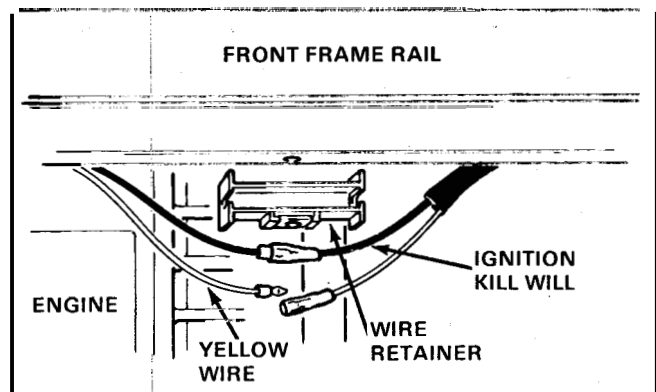

Figure 37
7. If the oil level is normal, disconnect the yellow wire connected to the low oil shut down module. Access to the yellow wire may be obtained by removing the single screw that retains a wire connector bracket on the front crossframe of the generator. See Figure 37 for the exact location of the wire.